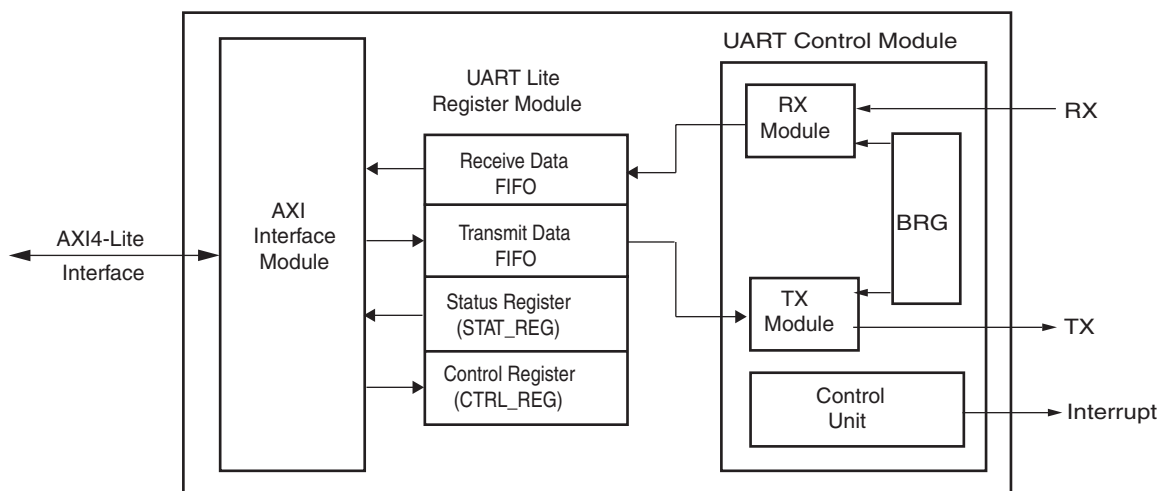

Figure 1: Block Diagram of AXI UART Lite
The AXI UART Lite modules are shown in Figure 1 and described in the sections that follow.
**UART Lite Register Module:** Includes all memory mapped registers (as shown in Figure 1). It interfaces to the AXI through the AXI interface module. It consists of a status register, a control register, and a pair of transmit/receive FIFOs, both of 16-character depth. All registers are accessed directly from the AXI using the AXI interface module.